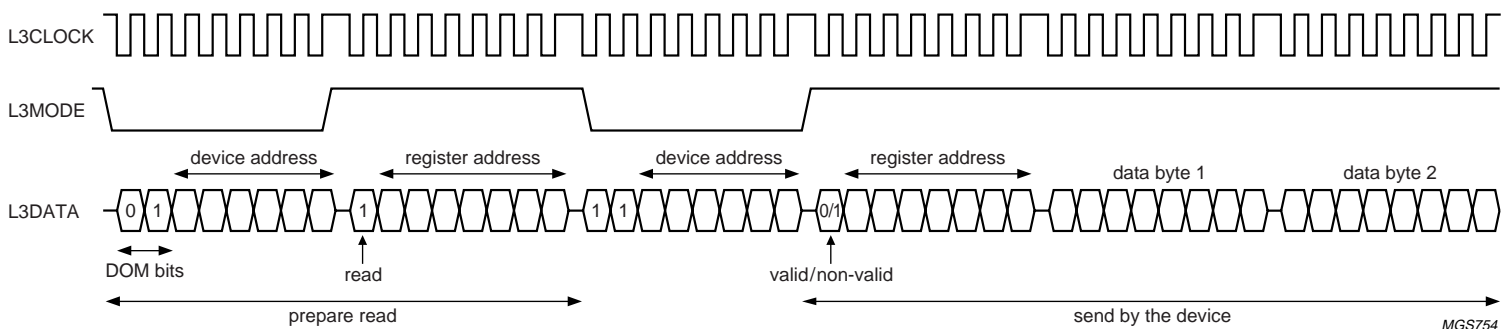

Fig.8 Data read mode.
2. Addressing for prepare read: bit 0 is logic 1 indicating that data will be read from the register (see Fig.8).
For reading data from the device, first a prepare read must be done and then data read. The data read mode is explained in the signal diagram of Fig.8.